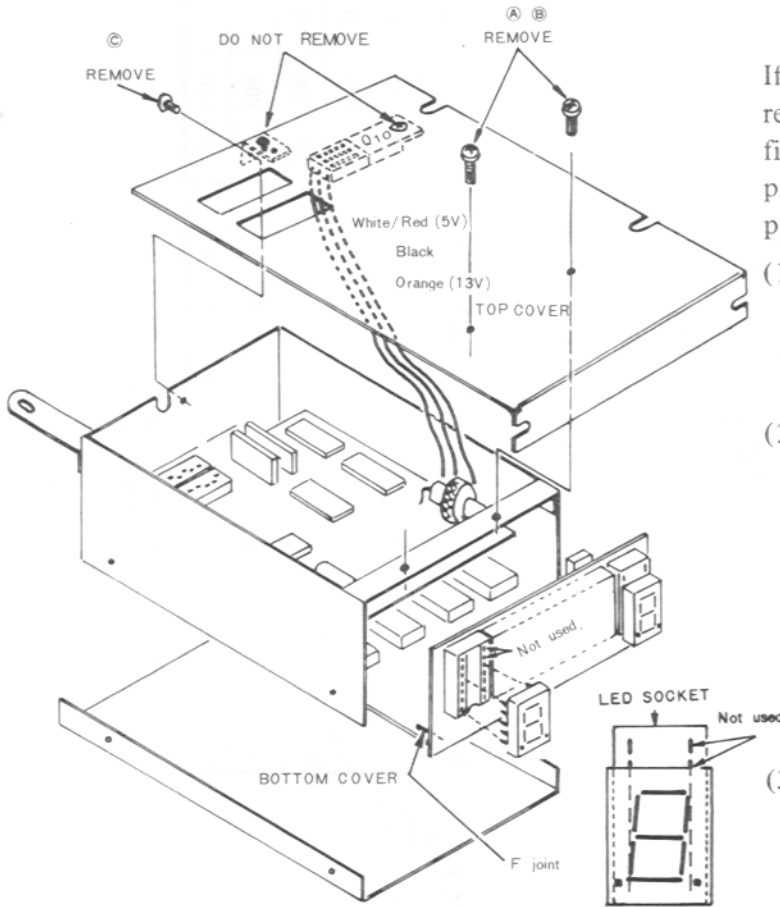
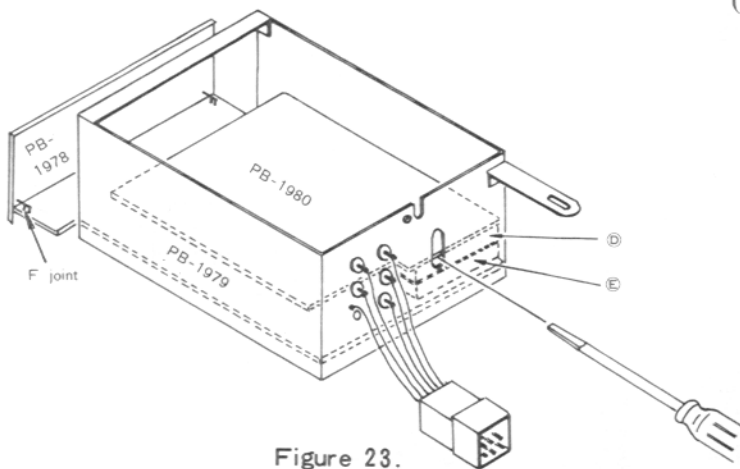

Figure 22.
Figure 23.
- (1) Remove screws A, B, and C, as shown in Figure 22. Be careful not to remove the two screws on the top rear of the cover. Now remove the top cover.
- (2) PB-1980 and PB-1979 are stacked within the enclosure. The display module is held in place with two "F" joints, while the two circuit boards are held together by plug D and socket E. When replacing LED digits, note that the top two pins on each row of the socket are not used; be careful to align the LED correctly. The bottom cover is held in simply by a snap fit.
- (3) To remove PB-1980, refer to Figure 23. and insert a small screwdriver in the oblong hole in the rear of the enclosure. Carefully pry plug D away from socket E, and then PB-1980 will be free for servicing.